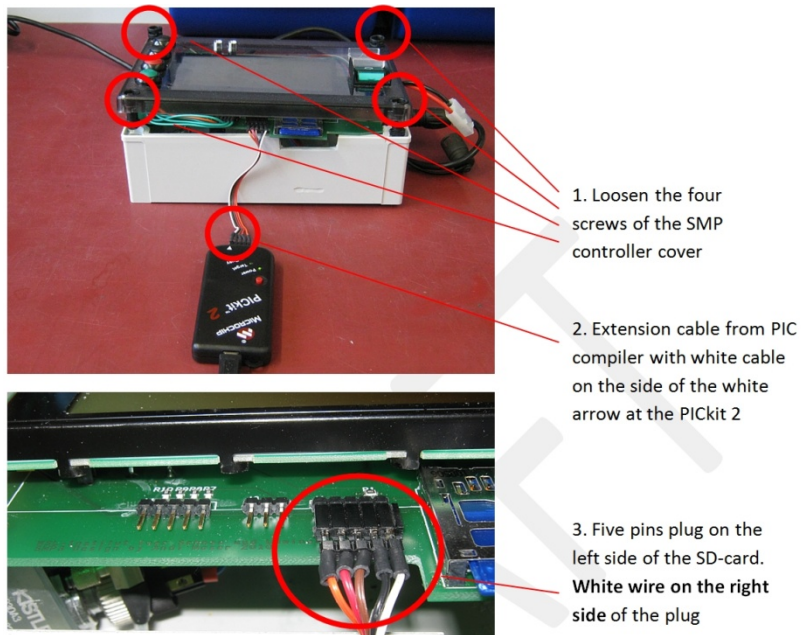

Figure 10: Preparation of the SMP controller for the software update.
2. Connect the PIC adapter and the controller as shown in Figure 10)